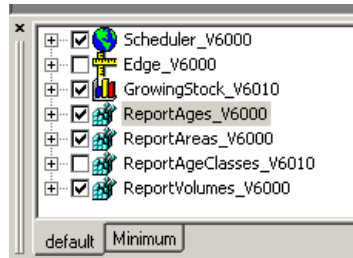

Figure 9: Configuration window with active and inactive module shown
2.2.1.1 Select the *Configuration* icon. The default *Configuration* window should be similar to Figure 9. The check marks indicate the modules that are active. To activate or deactivate a module, uncheck the box to the left of the module names. Any changes made are automatically saved.